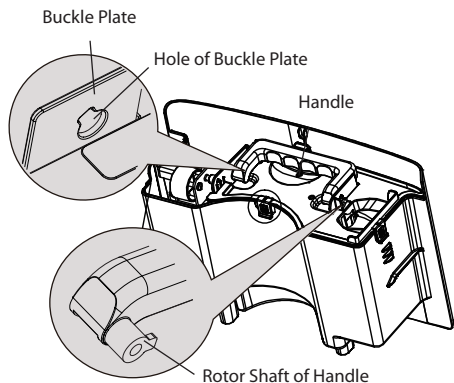

Figure 1b
1. Direct the rotor shaft of handle to the hole of buckle plate. Pull the bucket plate at the handle side by following the arrow direction. Remove the handle (shown in Figure 1b).